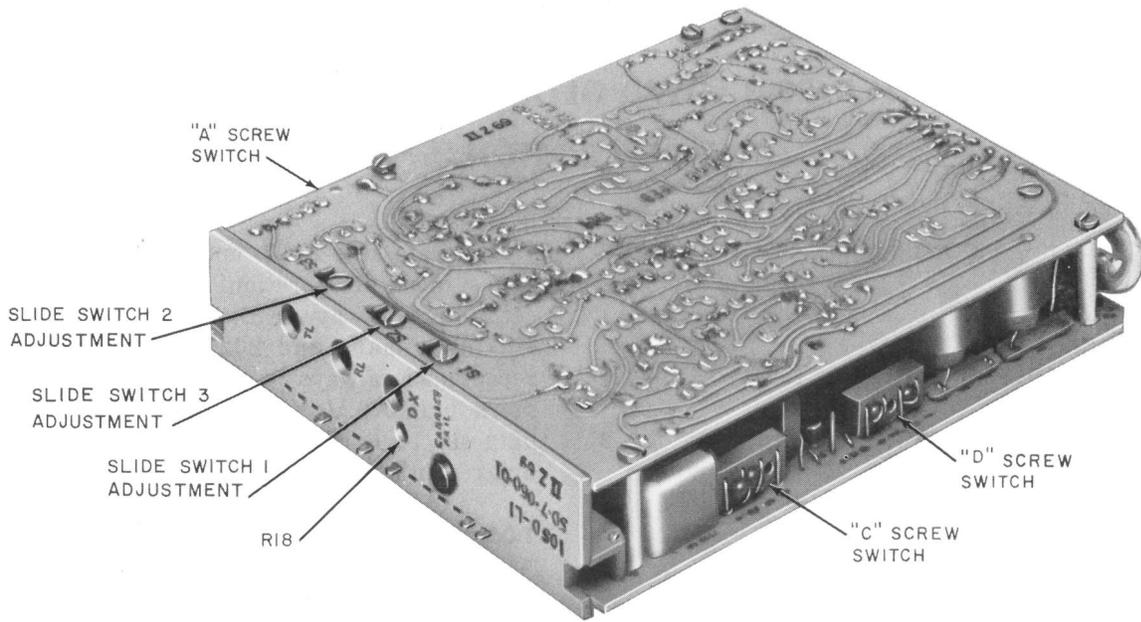

Fig. 1—Data Set 108D-Type (Series 2)
1.03 Data sets 108D- and 108E-type (Fig. 1 and 2) are full-duplex (FDX), frequency-shift-keyed (FSK), serial-transmission data sets which provide low-speed (up to 300 bauds) data transmission over 2-wire or 4-wire private line (PL) voiceband facilities. These data sets may be inserted into a number of data auxiliary sets or data mountings.
2.02 Figures 1 and 2 show all items visible on the faceplates of data sets 108D (series 2) and E (series 1), respectively. Three slide switches (S1, S2, and S3) are visible from the front faceplate of the data set; however, the data set must be removed from the data auxiliary set (DAS) in order to change the slide switch settings. Loosen the screw holding the slide in place to slide the switch contact to the proper option as indicated by the tab. After positioning the contact, tighten the screw (see Fig. 1 and 2).
Figures 1 and 2). In addition, the amplifier isolates the PL facilities and provides a suitable termination for the sending high-pass filter (data set 108E) or low-pass filter (data set 108D).
4.04 The transmission level of the data set is adjustable to allow compensations to be made for differences in loop loss. Potentiometer R18 (Fig. 1 and 2) adjusts the data set output power level through a range of -6 to -26 dBm for data set 108D or 0 to -26 dBm for data set